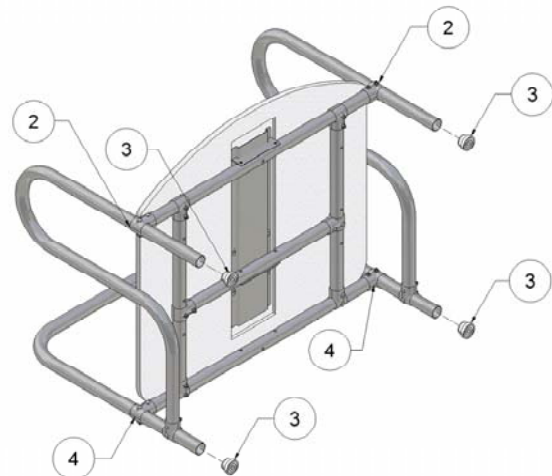

Fig. 6
**Step 3)** Set the unit on its back and lower the deck assembly so that it is perpendicular with the back rail. With one person holding the deck assembly in place, attach the side rail to the front of the deck assembly at the joint, (Labeled 2) by using a split tee. Loose assemble. See Figure 6.
**Step 4)** Attach the other side rail to the front of the deck assembly at the other joint, (Labeled 2) by using a split tee. Loose assemble. See Figure 6.
**Step 5)** While the unit is still resting on the back support rail, insert the four rubber bumpers, (Labeled 3) into the bottom of the legs (back and side support rails). See Figure 6.
**Step 7)** With a split tee, attach the back of the deck assembly to the back rail at the joint, (Labeled 4). Loose assemble. See Figure 6.
**Step 8)** With a split tee, attach the other side of the back of the deck assembly to the back rail at the additional joint (Labeled 4). Loose assemble. See Figure 6.